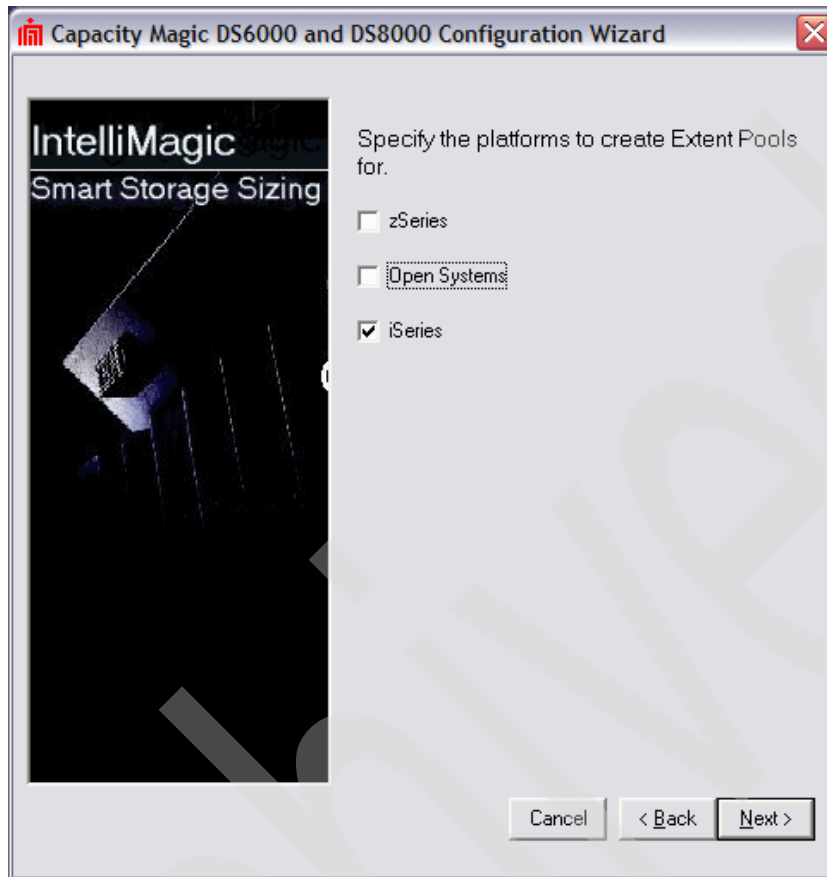

Figure 3-14 Specifying the host system
5. Select the type of host system. In this example, we plan DS8000 for i5/OS, so we select **iSeries** (see Figure 3-14). Then, click **Next**.